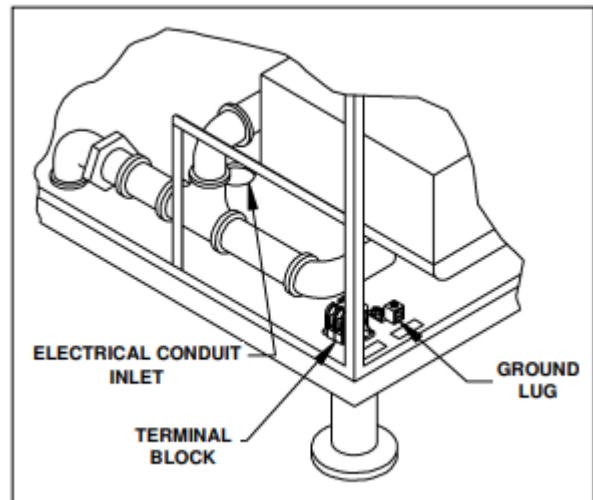

Figure 3-8
4. Refer to the connection diagrams in Figure 3-8 and connect the wires to the terminal block and ground connector accordingly.